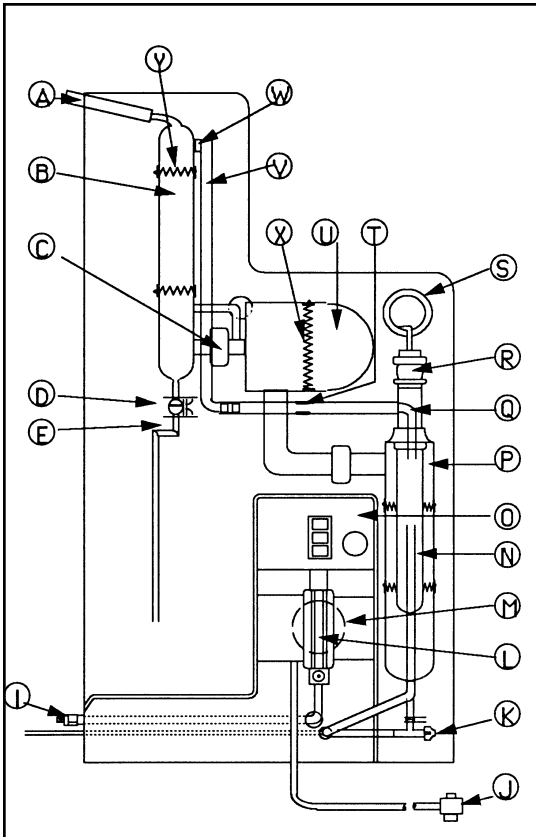

Figure 4
Refer to Figure 4 for the following steps:
1. Reinstall the condenser (B) into the coupling (C) and clamp the condenser in place with springs (Y).
2. Tighten coupling (C) using a 7/16" wrench. The coupling should be just tight enough to prevent rotation with moderate hand pressure.
3. Check the orientation of trap (U). If it is not level or tilted back toward the boiler as shown in Figure 4, move the condenser (B) up in its bracket. This will tilt the trap as shown in Figure 4.
- A. Connect tube (V) to upper the right condenser tubulation using Teflon® connector (W).
5. Remove the packing material and rotate tube (Q) into the constant level chamber of boiler (P) as shown in Figure 4.
6. Unpack the Vycor® immersion heaters (R) and check the voltage rating on the top cap. It should agree with the voltage of your power supply. If it does not, contact your dealer and order the correct heater.
7. Insert the immersion heaters into the top openings of boiler (P) as shown in Figure 4.
8. Thread the heater plugs and cords through the large hole above the boiler (P), then back through the hole below the control box (O). Plug the heater plugs into the receptacles on the bottom of the control box. The plug is a twist-lock type and requires a 1/4 clockwise turn to lock in place.